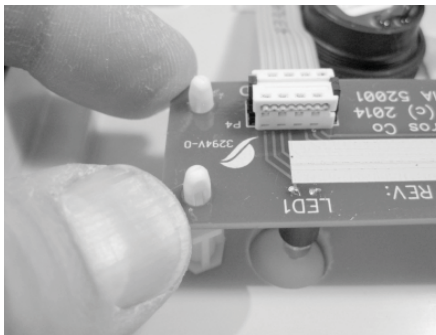

Figure 35 - Press the Indicator Board partially down on its supports
- b. Using two fingers as shown in Figure 35, gently press one end of the board partially down onto the supports.